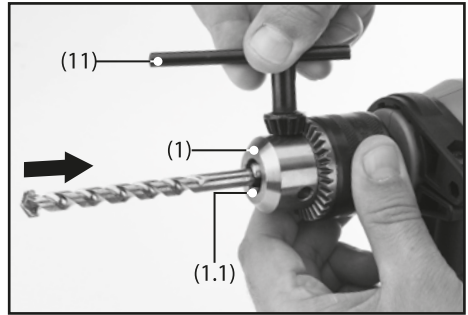
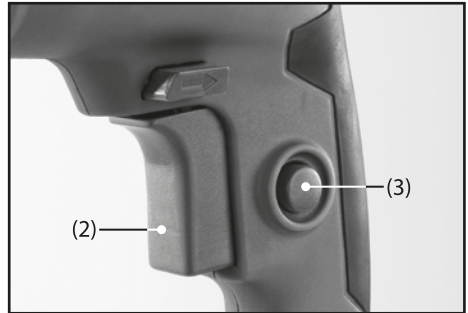

FIG.5
FIG.6
9.1 INSTALLING AND REMOVING DRILL BITS – FIG.5
- Whilst gripping the base of the chuck (1), use chuck key (11) to open up the chuck jaws (1.1).
9.2 SWITCH OPERATION – FIGS.6 – 8